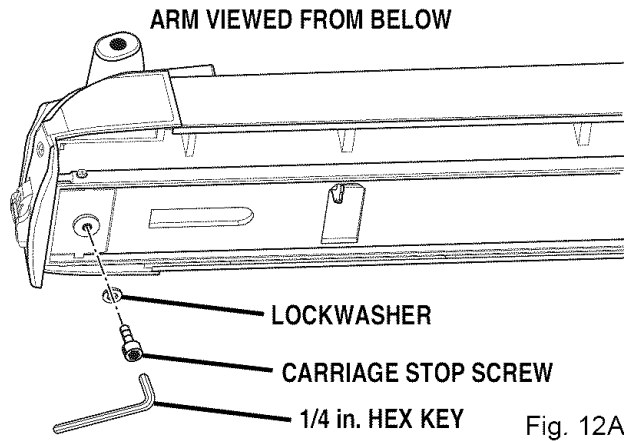

Fig. 12A
See Figures 12A - 12C.
- Remove the carriage stop screw and lockwasher from below the front of the arm with a 1/4 in. hex key. See Figure 12A.